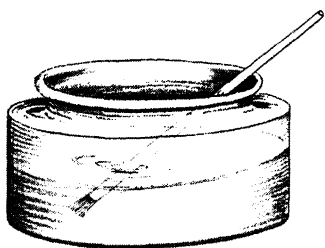

FIG. 1
1. Apply the flux to the joint, using a small cheap brush (Fig. 1).